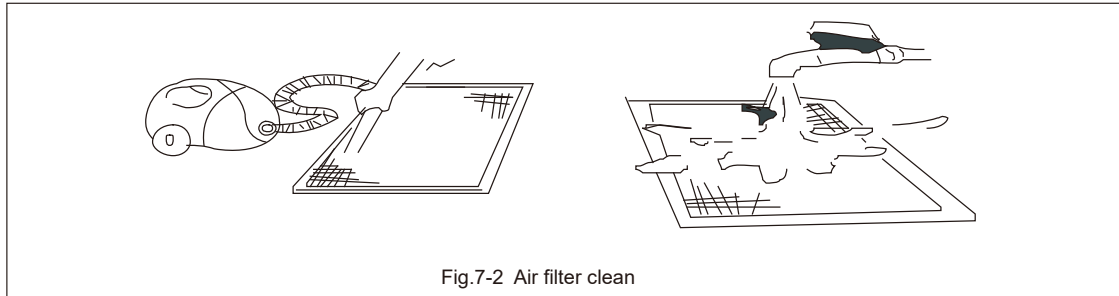

Fig.7-2 Air filter clean
3. Clean the air filter (Vacuum cleaner or pure water may be used to clean the air filter. If the dust accumulation is too heavy, use soft brush and mild detergent to clean it and dry out in cool place). See in Fig.7-2.